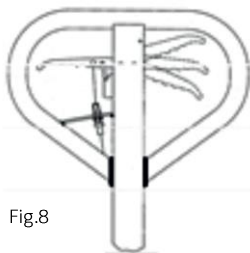

Fig.8
If necessary, you can adjust the lever according to following steps (Fig. 8):
- c) If the forks do not descent when the control handle is in the Lower position, turn the adjusting nut clockwise until raising the control handle lowers the forks. Then check the Neutral position according to fig. 8 and be sure that the adjusting nut is in the proper position.